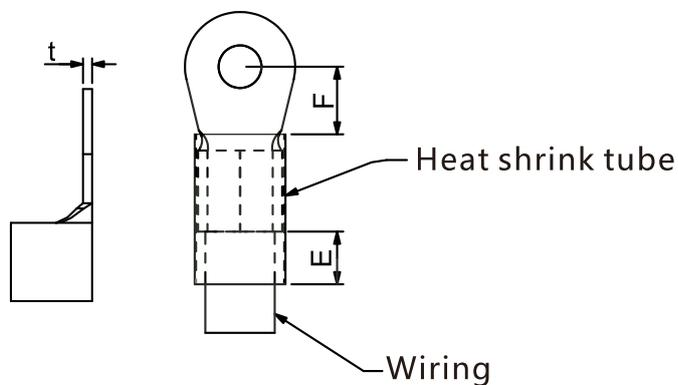

Figure 4-20
- As shown in Figure 4-20, use insulated heat shrink tubing that is resistant to at least 600 VAC to comply with UL and CSA regulations (600 VAC, YDPU2/8).